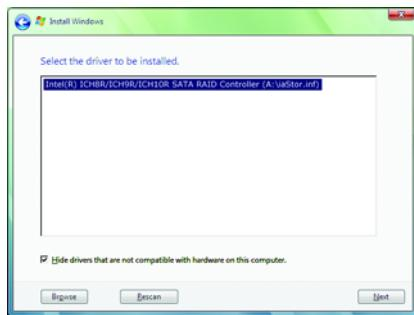

Figure 8
When a screen as shown in Figure 8 appears, select **Intel(R) ICH8R/ICH9R/ICH10R SATA RAID Controller** (Note) and press **Next**.
- (Note) The item displayed in Figure 8 will be shown as **Intel(R) ICH10R SATA AHCI Controller** when the SATA controllers are set to AHCI mode.